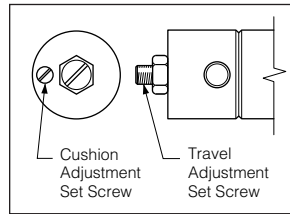

Figure 1
1. Back off 9/16" lock nut on 3/8" dia. set screw as shown in Figure 1.
NOTE A: Again left side paddle cushioning is affected by the right side air cylinder cushion set screw (3/16" dia.) and vice versa as shown in Figure 1.